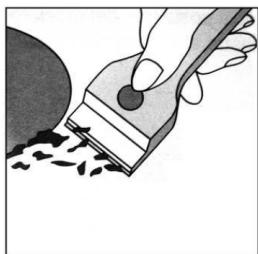

Fig.1
- To remove the most persistent adhered residues from the glass surface you can use a scraper, not supplied (Fig. 1).